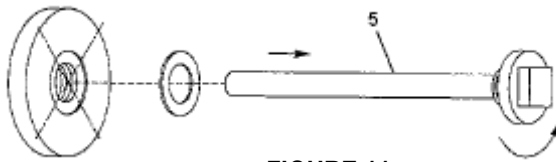

FIGURE 11
Pin Mounted in Body Wall (Figs. 9-13). The disc assembly should be lowered into the body and supported either by hand or with a sling. With the pin (039, 041, 5) partially inserted through the body wall, align the hinge assembly with the pin and push the pin through the hinge, into the journal on the opposite body wall. Depending on the type of hinge cover supplied it may be necessary to affix a roll pin (58) between the end of the hinge pin and the cover, plug or bonnet (037, 10, SA). With the plug type cover (Fig. 11) in which the plug is an integral part of the pin the gasket should be placed on the plug prior to insertion of the pin. If the plug is separate, the gasket and the roll pin should be affixed and the plug screwed into the body. Where a spiral wound gasket is used, care must be taken to correctly compress the gasket. The plug should be tightened until the proper compressed gasket thickness is achieved.